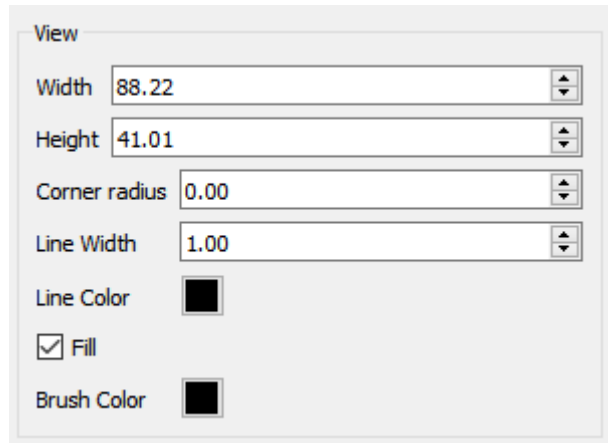

Figure 13.27: The view tool for a rectangle.
- Rectangles give one additional option for rounded corners, allowing you to adjust the radius shown in Fig. 13.27.